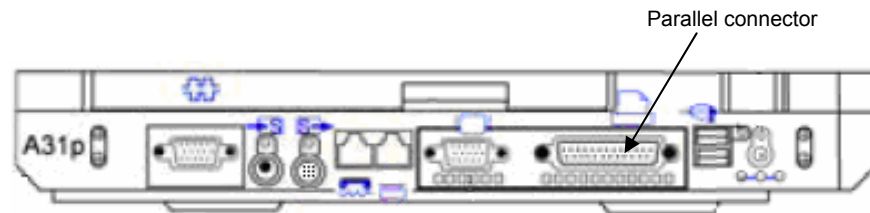

Figure 12-8.- Printer (top view/back view), PGSC (parallel port).
(see figure 12-8)
Connect RJ-45 network cable to Printer Network RJ-45 Port (see figure 12-8)
Connect parallel cable between Printer Parallel Port and KFX PGSC Parallel Port (see figure 12-8)
- Printer 3. Printer pwr – on (see figure 12-8)
| Network RJ-45 Port (see figure 12-8) |
(see figure 12-8) |